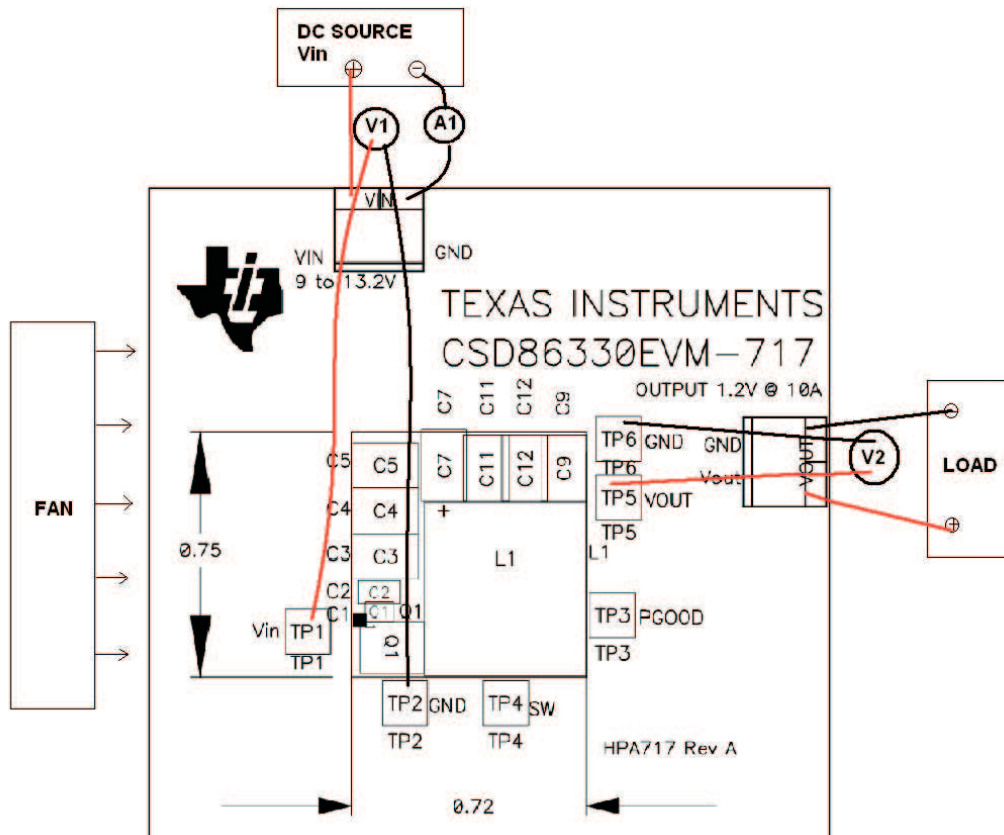

Figure 3. CSD86330EVM-717 Recommended Test Set Up
Voltage Source: The input voltage source V_{IN} should be a 0-V to 13.2-V variable DC source capable of supplying 4 A_{DC} . Connect V_{IN} to board as shown in Figure 3.
Figure 3 is the recommended test set up to evaluate the CSD86330EVM-717. Working at an ESD workstation, make sure that any wrist straps, bootstraps or mats are connected referencing the user to earth ground before power is applied to the EVM.
- Prior to connecting the DC input source V_{IN} , it is advisable to limit the source current from V_{IN} to 10 A maximum. Make sure V_{IN} is initially set to 0 V and connected as shown in Figure 3.
Other Connections: Place a fan as shown in Figure 3 and turn on, making sure air is flowing across the EVM.
1. Set up the EVM as described in Section 5 and Figure 3.